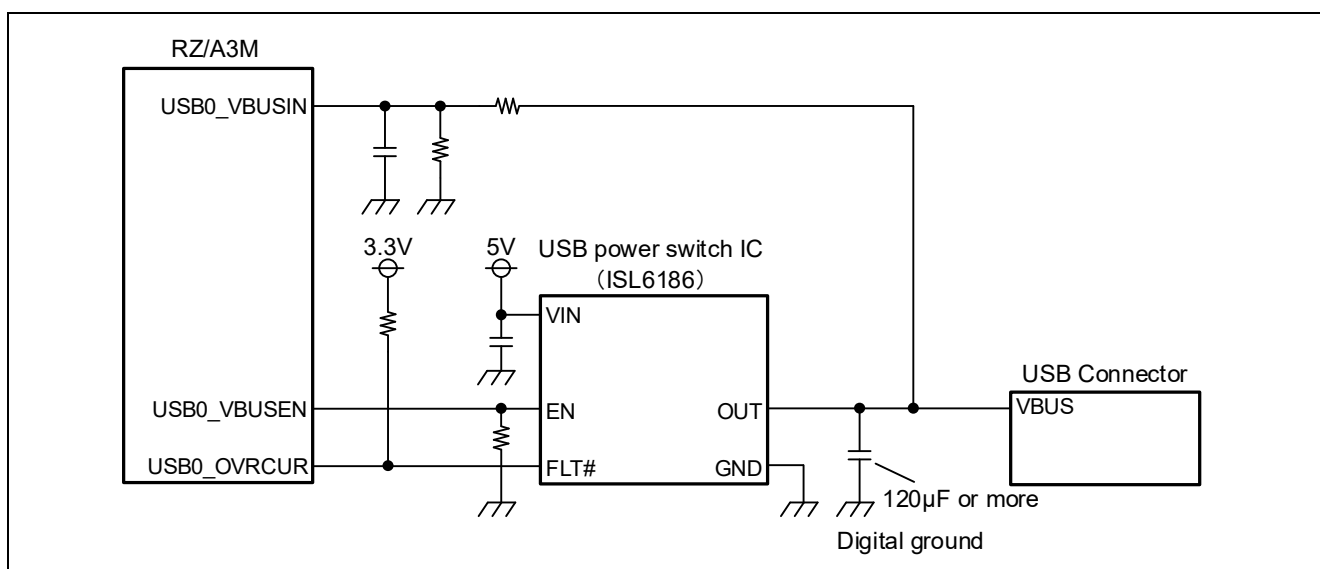
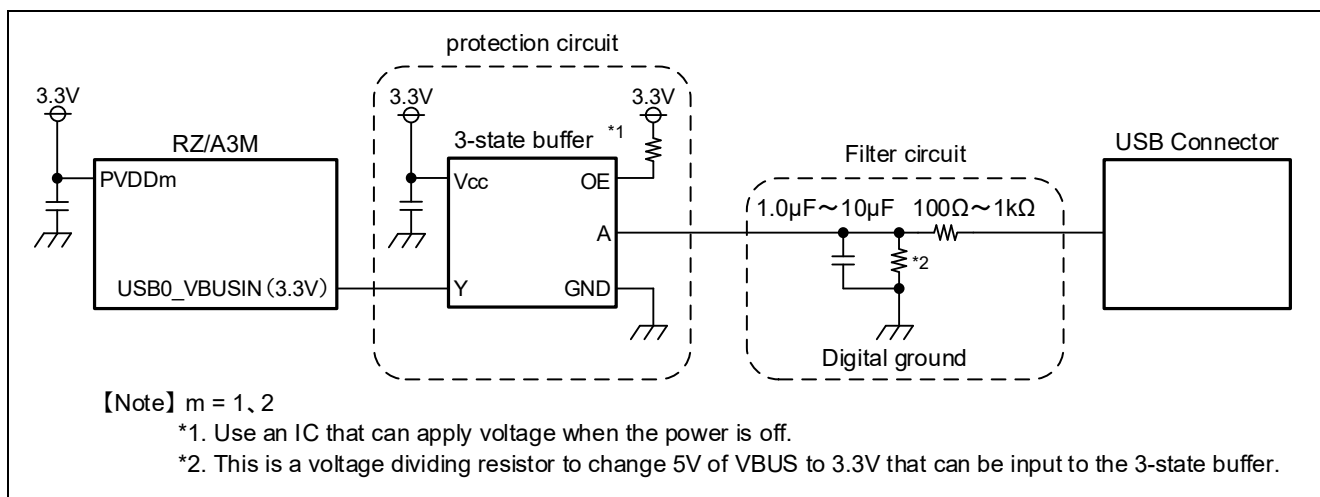

Figure 8.1 Host controller VBUS circuit example
Figure 8.2 Function controller VBUS circuit example
- When using the RZ/A3M as a function controller, if the USB host module is connected while the RZ/A3M is powered off, a voltage exceeding the absolute maximum ratings*1 will be applied to the RZ/A3M's VBUSIN input pin. , the LSI may be permanently destroyed. To avoid this, protect RZ/A3M by referring to the protection circuit shown in **Figure 8.2**.
Figure 8.1 shows an example of a VBUS power supply circuit when used as a host controller, and **Figure 8.2** shows an example of a VBUS power supply circuit when used as a function controller.